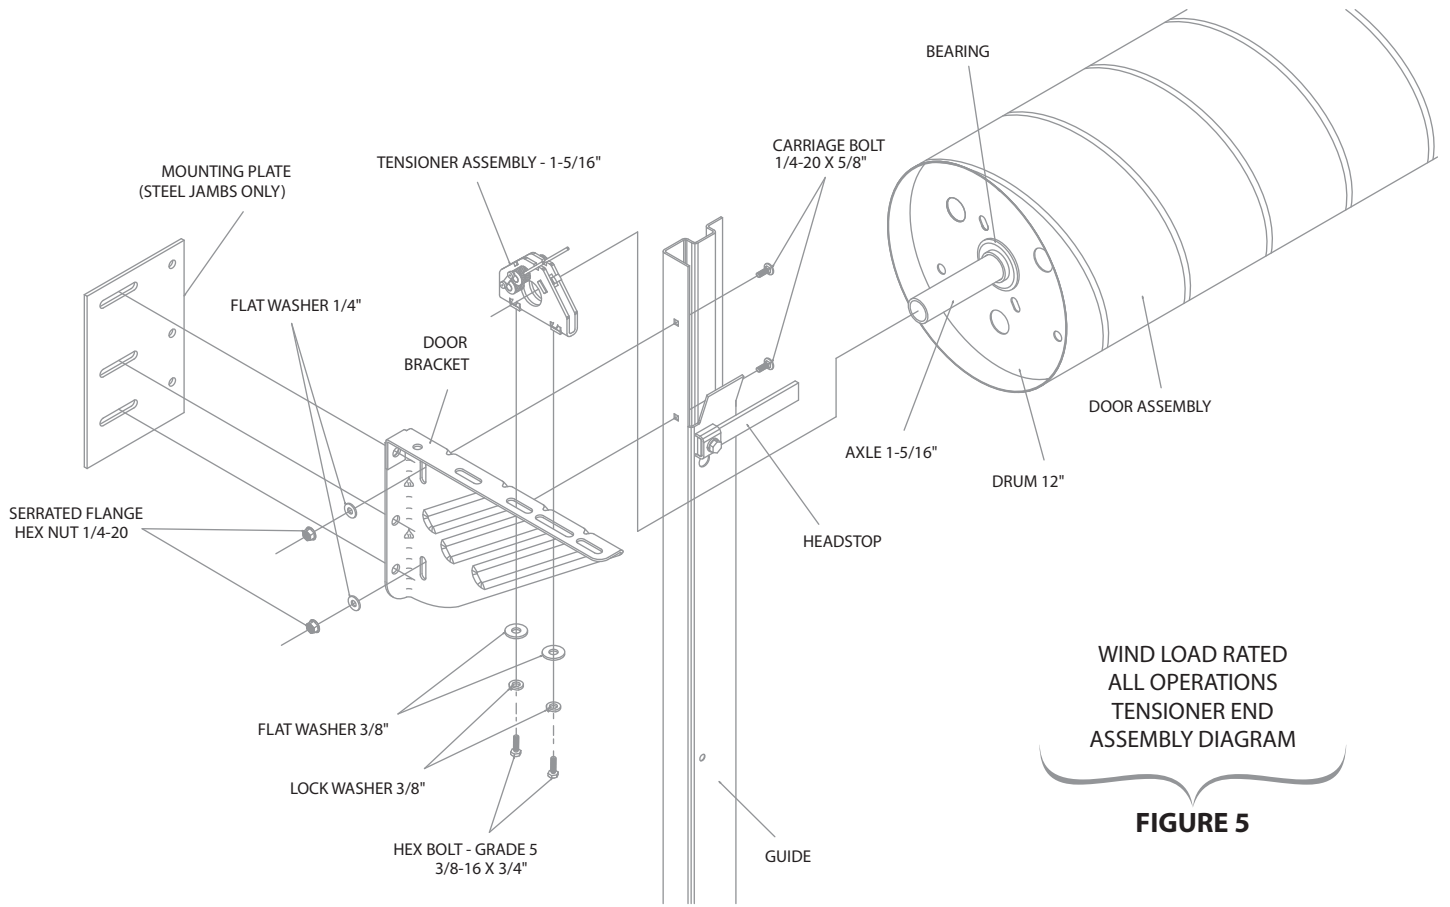

FIGURE 5
- A. Attach door brackets to guides, locating top surface of bracket 2" below top of guide. Use 2 each 1/4-20 x 5/8" carriage bolts, 1/4-20 serrated flange hex nuts and 1/4" flat washers per bracket for tensioner end and the non-tensioner (drive) end for push-up operation. **See figures 5 and 6.**
- A. Slide head stop from outside of each guide. *See figures 5 through 8.*